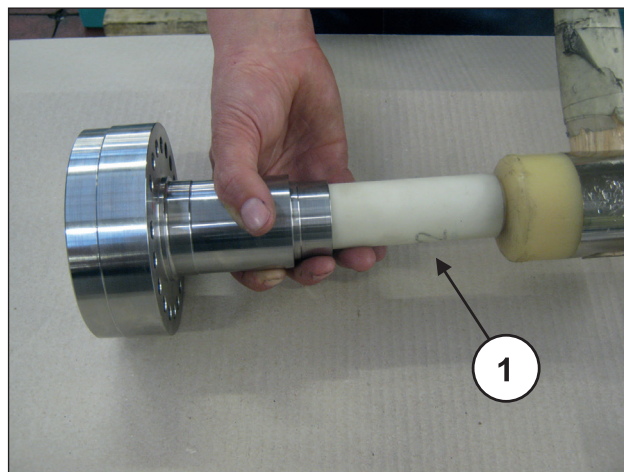
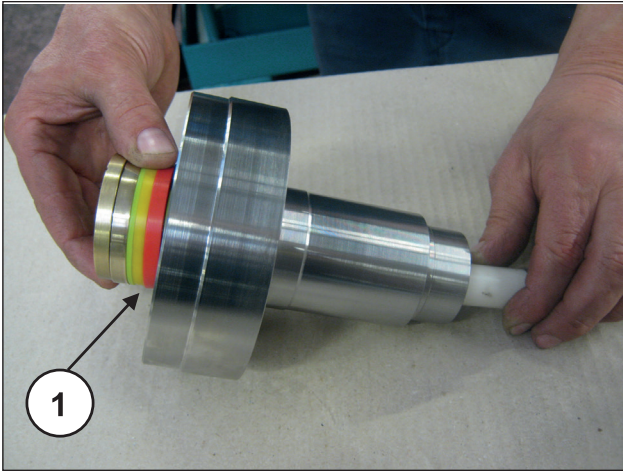

Fig. 192
Fig. 193
With separate HP gasket support and a special plastic pin (pos. ①, Fig. 192) have the HP (high pressure) pack come out (pos. ①, Fig. 193), finally extract the head ring (Fig. 194).
At each disassembly, the HP packing (pos. ①, Fig. 193) must be replaced.